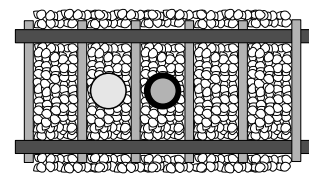
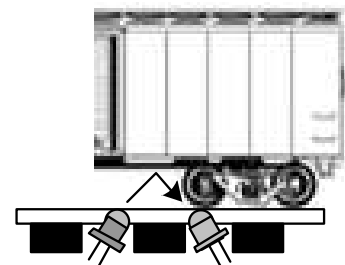

Figure 5a
Figure 5b
The *Grade Crossing Pro (GCP)* provides prototypical operation of a grade crossing. Four pairs of Infrared (IR) emitters and detectors are used for bidirectional train detection. Detection is achieved when the IR beam from the emitter reflects off the underside of the train back down to the detector. **Despite the use of infrared components you could still encounter false triggering from overhead lighting. This is usually eliminated with angled sensor mounting (Figure 5b) and/or proper sensor sensitivity adjustment (page 4).** This version of the GCP must be powered from either a 7-9V AC or 9-12V DC power source (such as our 12VPSR). Do NOT exceed these limits! The layout of the signals and IR components is illustrated at left below. The illustration on the right shows a side view of the IR detection method.
The IR components should be mounted between the rails. Drill two 11/64” holes, through the ballast, roadbed, and sub-roadbed. These holes should be located one tie apart (Figure 5a) and drilled at approximately a 45 to 60 degree angle from horizontal as illustrated in the side view in Figure 5b. The benefit of mounting them at an angle is reduced false triggering from overhead light and increased detection reliability in smaller scales or irregular bottoms on rolling stock. For the smaller scales this drilling may end up hitting the ties. Take your time so you don’t mangle them! Insert the leads of one IR emitter (white and black wires) into one of the holes (it doesn’t matter which one!) from the top of your layout. Repeat for the IR detector (blue and black wires). The tops of the components should sit no higher than the top of your ballast for optimal IR performance; in some cases (e.g. false triggering) it may be necessary to locate the components a little below the ballast line. You can extend the leads with similar (or larger) wire. We recommend soldering and insulating these connections. We also recommend using terminal blocks/strips since you’ll have multiple DC and GND connections to make. Once you have wired the IR components and verified their operation you may wish to put a dab of white glue or silicone caulk where the wires exit the holes underneath the layout. This will help to hold the components in place; make sure you don’t get any substance (e.g. ballast or glue) on the top surface of the IR components as this may prevent them from operating properly. In extreme cases where you may be getting interference from overhead lighting you can mount the IR detector in some plastic or metal tubing. You can also recess the IR detector slightly below the ties and roadbed.